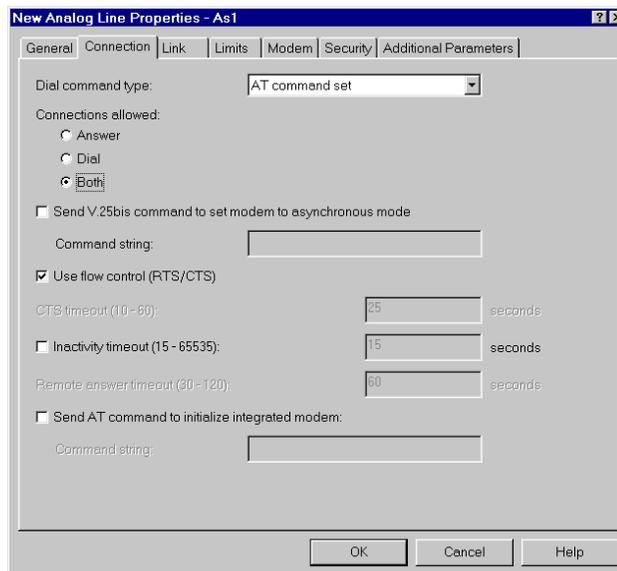

Figure 26. Properties: Connection display
5. Click the **Connection** tab (Figure 26).